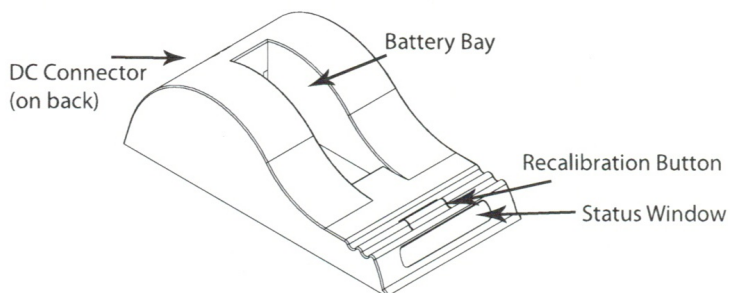

Figure 1. Battery Charger/Recalibrator
- To recalibrate the battery while charging it, press the Recalibration Button on the front of the charger (shown in Figure 1). This will cause the FLASHING BLUE LED to appear, indicating that the battery is undergoing the recalibration cycle. There may be a short delay before recalibration begins. When the battery is fully calibrated and fully charged, the SOLID BLUE LED will light up.